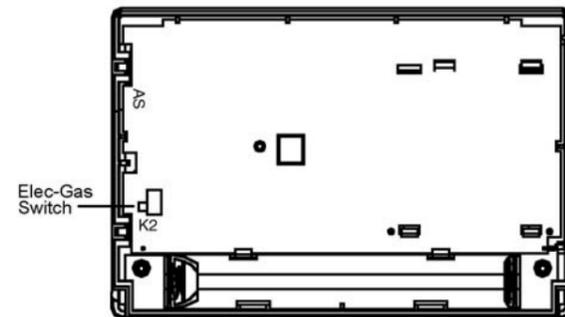

Figure 1. Electric/Gas Switch (Fan Option)
This thermostat is configured from the factory to operate a heat/ cool, fossil fuel (gas, oil, etc.), forced air system. It is configured correctly for any system that DOES NOT require the thermostat to energize the fan on a call for heat. If your system is an electric heat or heat-pump system that requires the thermostat to turn on the fan on a call for heat, locate the ELEC/GAS switch on the back of the thermostat (see Figure 1) and switch it to the ELEC position. This will allow the thermostat to energize the fan immediately on a call for heat. If you are unsure if the heating/cooling system requires the thermostat to control the fan, contact a qualified heating and air conditioning service person. When the thermostat is configured for heat pump, the thermostat will always power the circulator fan on a call for heat in the HEAT mode. The ELEC/GAS switch must be set to match the type of auxiliary heat your system uses for proper operation in the EMERGENCY mode.
5. Fasten base loosely to wall, as shown in Figure 1, using two mounting screws. Place a level against bottom of base, adjust until level, and then tighten screws. (Leveling is for appearance only and will not affect thermostat operation.) If you are using existing mounting holes, or if holes drilled are too large and do not allow you to tighten base snugly, use plastic screw anchors to secure base.